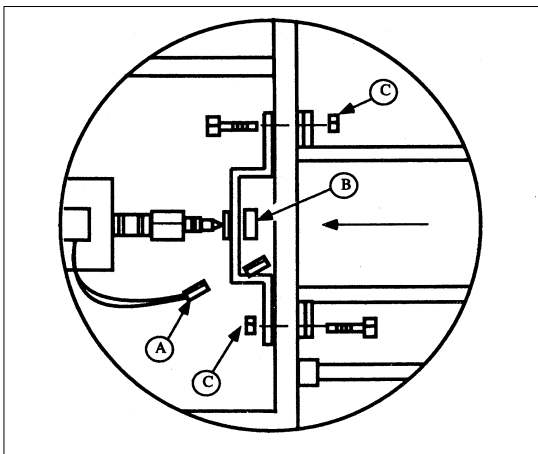

Figure 4-2
Unplug wire (A) at the glo-bar. Remove nut (B) and slide control assembly back. Unscrew bolts (C) fastening the orifice bracket to the control box, and pull out burner housing from tube (see Figure 4-2). Pull burner housing off fixed bolts, rotate counterclockwise  $\frac{1}{4}$  turn and remove.